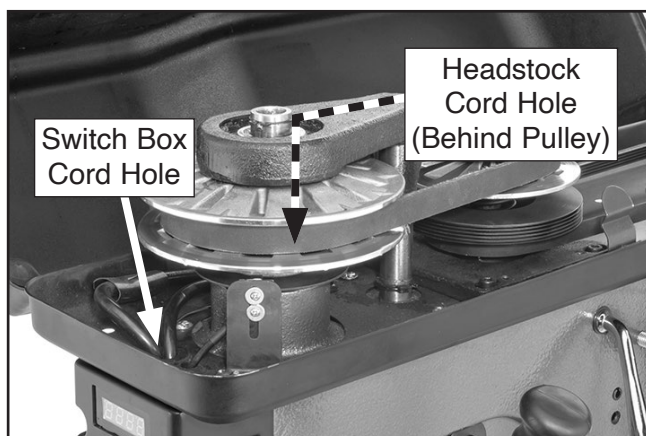

Figure 82. LED and laser module cords fed into headstock and switch box.
6. Open belt cover and identify which cord is connected to LED by lightly tugging cords fed into headstock (see **Figure 82**).
7. Follow cord to where it is fed into switch box (see **Figure 82**).